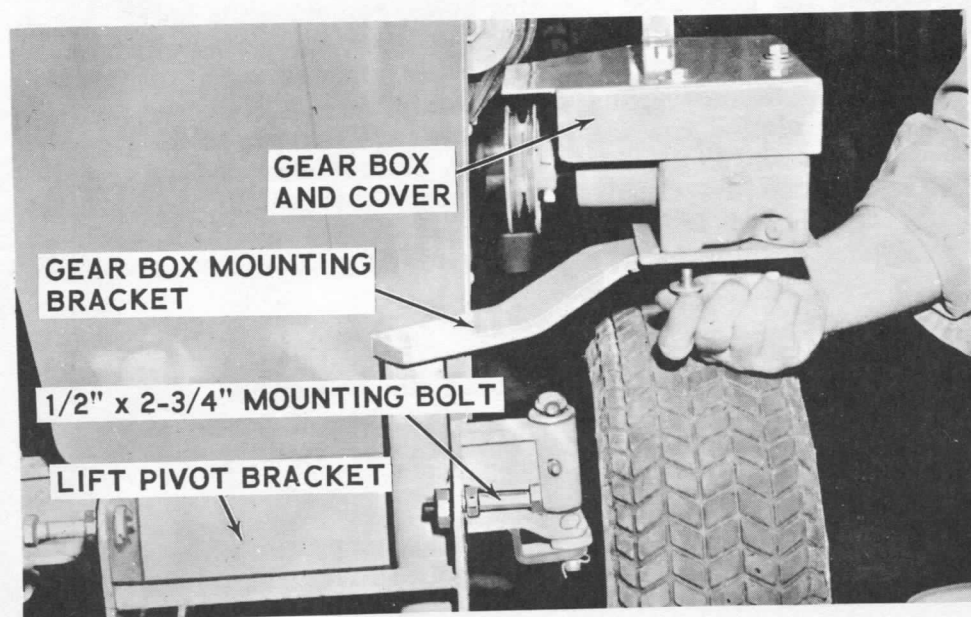
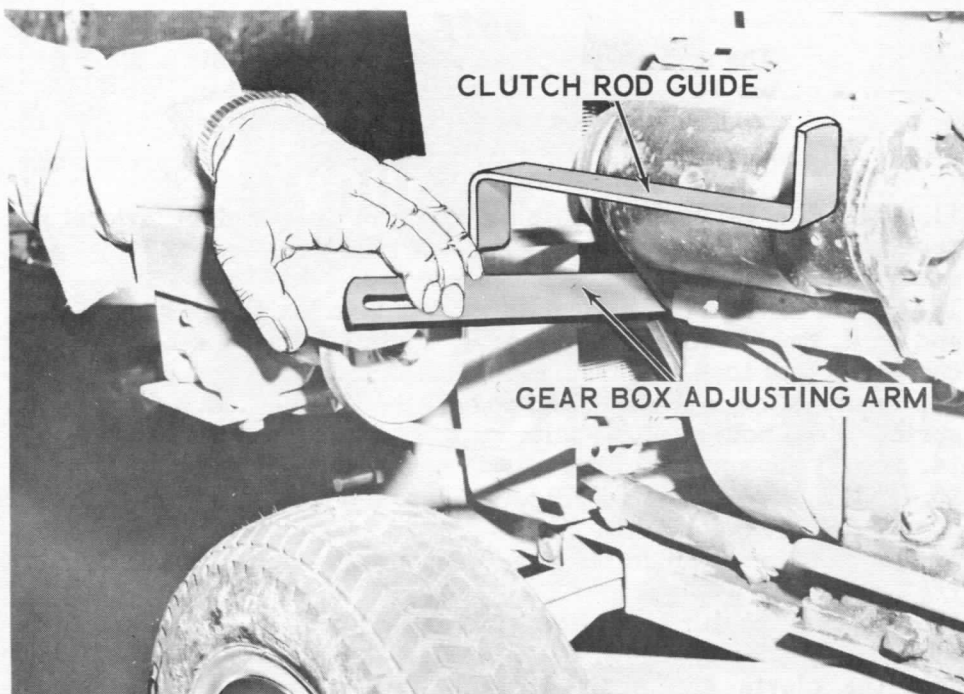

Figure 19
Figure 20
4. Connect the gear box mounting bracket, Figure 19, to the tube on the lift pivot bracket.
5. Position the gear box on the mounting bracket and bolt snugly with two (2) 3/8" N. F. x 3/4" cap screws, plain washers, and lockwashers.
7. Loosen the generator mounting bolts, removing the lower bolt on the front generator mounting flange. See Figure 20. Secure the gear box adjusting arm to the generator mounting using the original 5/16" x 3/4" cap screw and lockwasher.